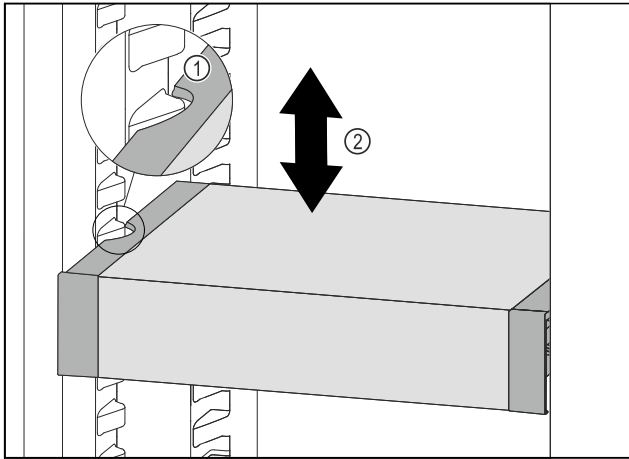

Fig. 131
- ▶ Pull VarioSafe forwards until the recesses in the side of the VarioSafe are at the level of the support rib in the refrigerator compartment. *Fig. 131 (1)*
- ▶ Move VarioSafe up or down in the refrigerator compartment until the desired height is reached. *Fig. 131 (2)*